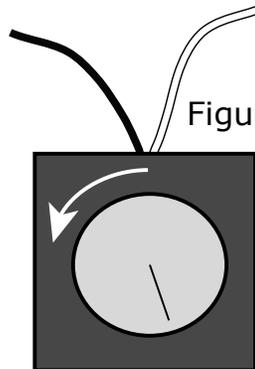

Figure: 9
- Turn the dial to counter-clockwise to increase speed until it clicks off, turn right to reduce speed. (Figure: 9)